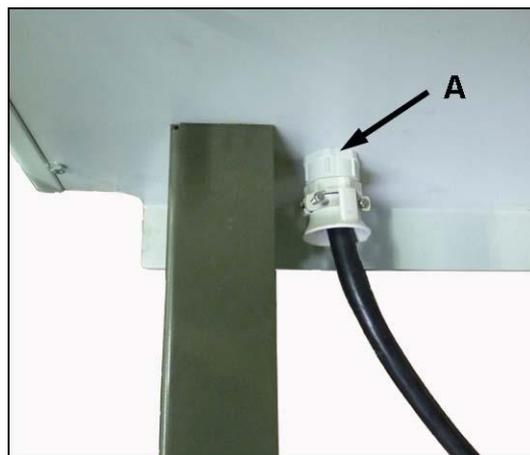

Fig. 5.1
**Steps for the connection** (Figures 5.1... 5.6):
Insert the power cable into the right-hand base-frame and secure it with the device **A** (Fig. 5.1).